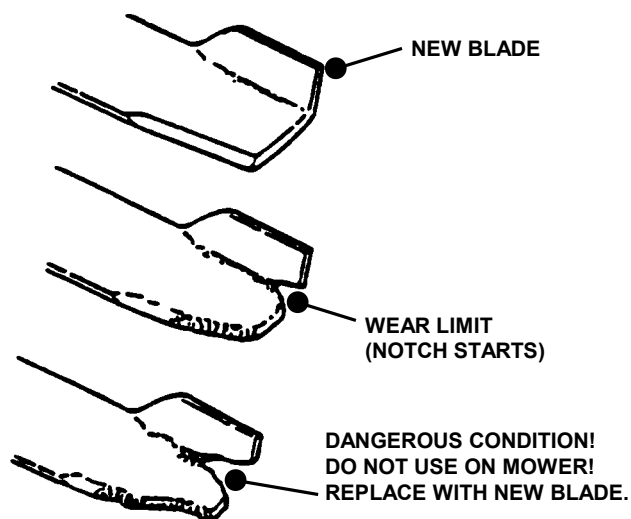

FIGURE 5.5
1. Inspect blade frequently for signs of excessive wear or damage. See Figure 5.5.
2. Inspect condition of blade. Refer to Figure 5.5.